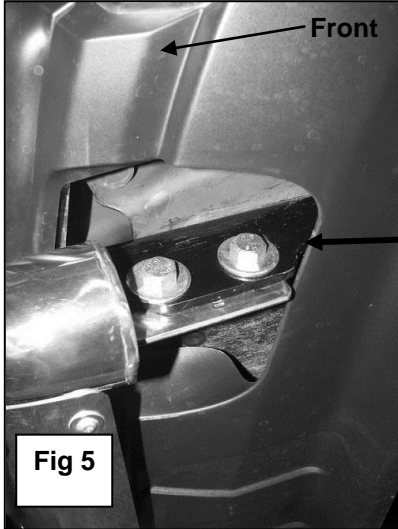

Fig 5
3. With help position the Bull Bar on the inside of the Mounting Brackets. Use the included (4) 12mm x 35mm Hex Bolts, (4) 12mm lock Washers, (8) 12mm Flat Washers and (4) 12mm Hex Nuts to attach the Bull Bar to the Mounting Brackets, **(Figure 5)**. Do not tighten at this time.